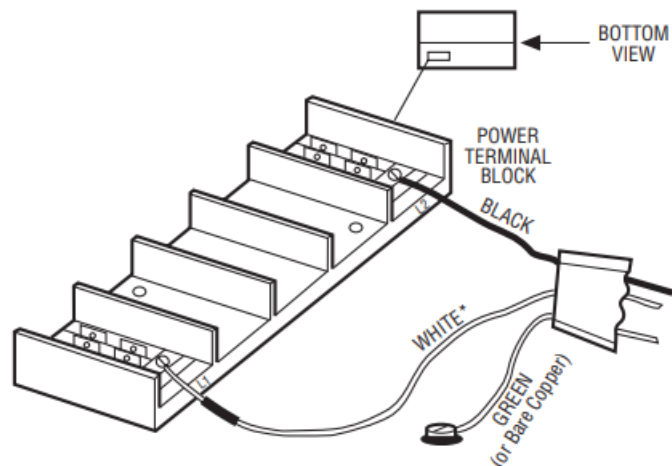

Figure 6
3. Connect the wire to the power terminal block located in the base of the heater (See Figure 6).